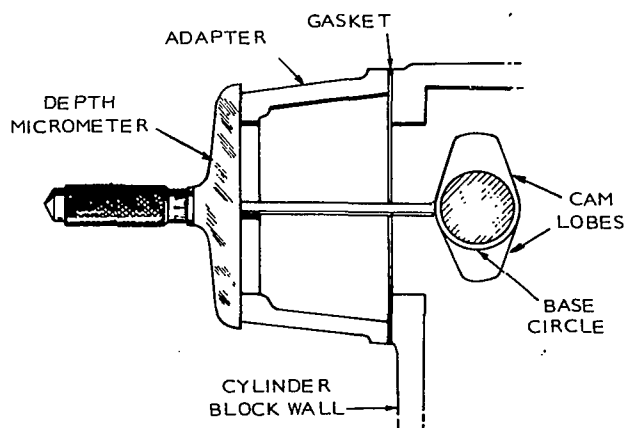

FIGURE 21g. MEASURING DEPTH FOR SHIM THICKNESS
2. Determine shim thickness required between pump and adapter, because the new gasket may not be the same thickness as the original one. See Figure 21g.
1. Rotate crankshaft to position camshaft so that the pump rollers contact the camshaft base circle (low point of the pump cam lobes). One lobe should be up, the other lobe down. See Figure 21g.